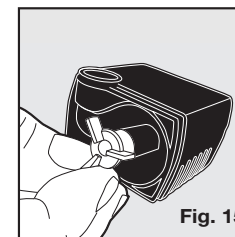

Fig. 15
- Once the stator is removed, remove the impeller (white, 3-bladed propeller). The impeller is held in place by a magnet, simply use a fingernail to get underneath a blade and lift out (Fig. 15).